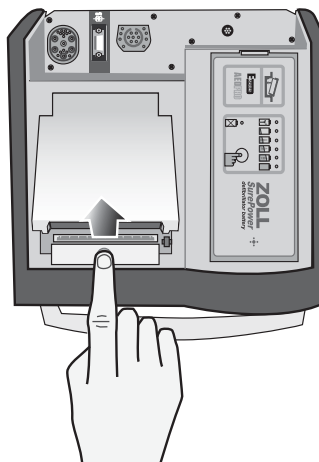

Figure 13-5. Opening the Printer Door
- Press the release button, and allow the printer door to open (see Figure 13-5); then remove any paper.